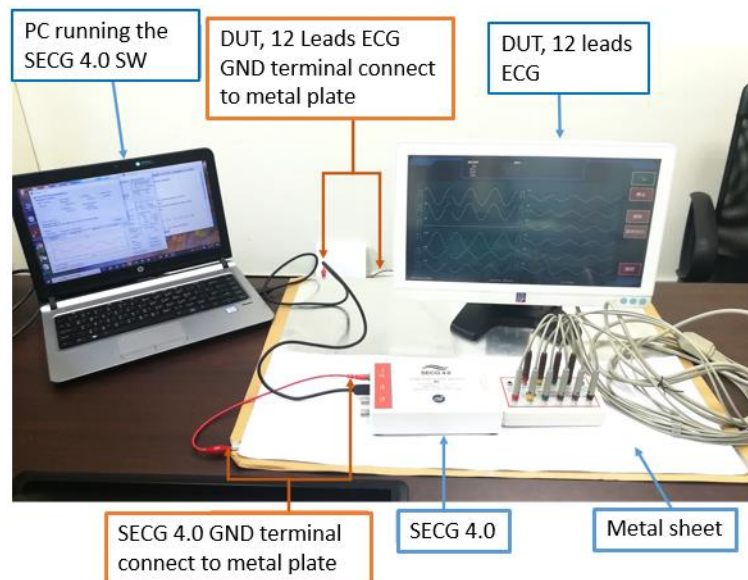

Figure 3, Input impedance test system diagram
Before starting the test, need to set up the test environment. Because the mains frequency (50/60 Hz) noise in the environment will interfere with the test through radiation or ground loops, how to prevent these noises from affecting the test results is important preparations before testing. Figure 3 is a test system diagram of a 12-lead ECG machine using WhaleTeq single-channel tester "SECG 4.0".
- 1) Set up the test environment as Figure 3.
- 3) Select RA(R) as the output electrode.
- 1) Set up the test environment as figure 3.